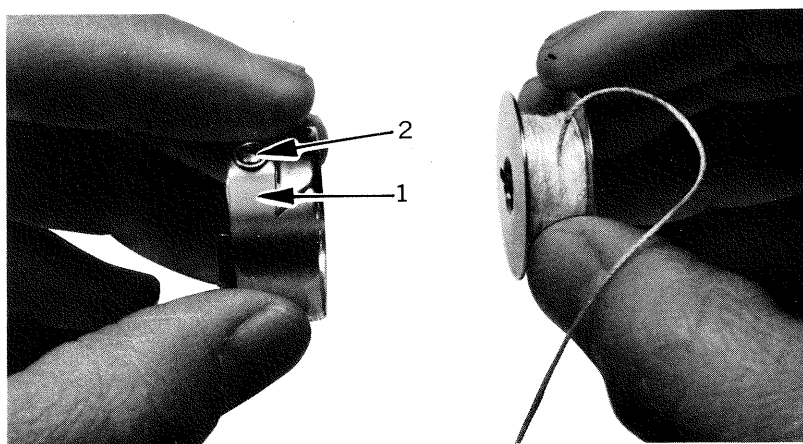

Fig. 6
3. To insert a full bobbin (Fig. 6), hold it pulling out the end of thread by about 5 cm, and insert the bobbin into the bobbin case.
4. Lead the end of thread pulled out through the slot of the bobbin case, and under the tension spring (1, Fig. 6) and then the thread guide.
To increase the tension, turn the screw (2, Fig. 6) to the right, and to decrease it, turn the screw to the left by a screw driver.